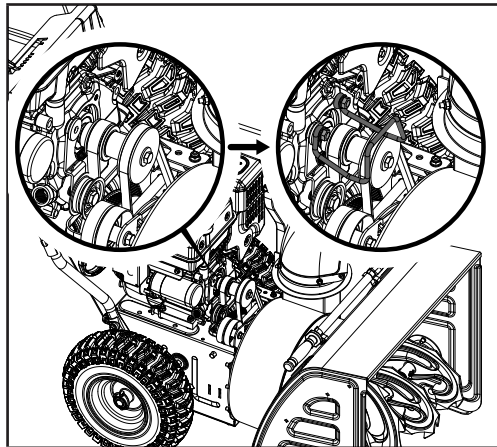

Figure 42
- Place the belt guard back into place and install the bolts (20 mm/30 mm) that were removed earlier. Once reinstalled, make sure there is equal distance on both sides between the pulley and the guard (Fig. 42).